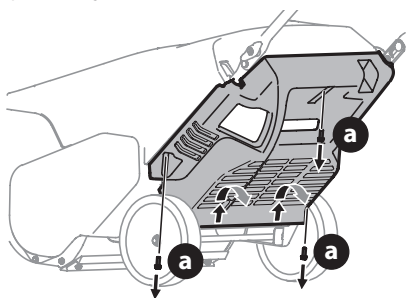

Figure 25
2. Remove the three screws (a) that secure the lower panel. Remove the lower panel by lifting up on the panel to free the tabs at the bottom of the panel from the tab slots and then pull back (Figure 25).
- a. Remove the three screws (a) that secure the lower panel. Remove the lower panel by lifting up on the panel to free the tabs at the bottom of the panel from the tab slots and then pull back (Figure 25).